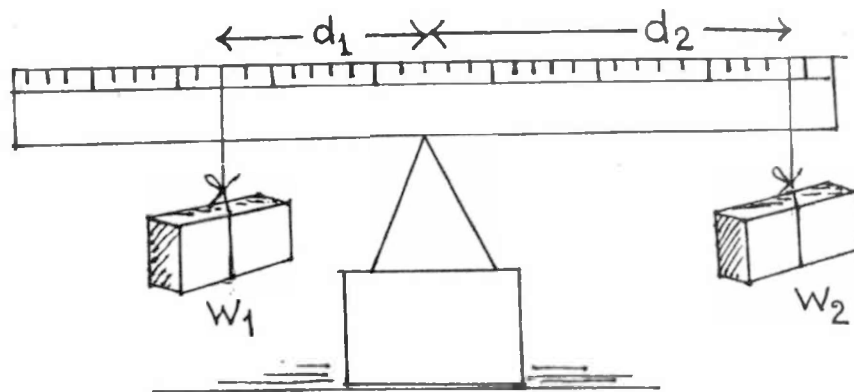

Fig.2.19
3. Hang the two bricks, one at each end of the scale as shown in Fig.2.19.